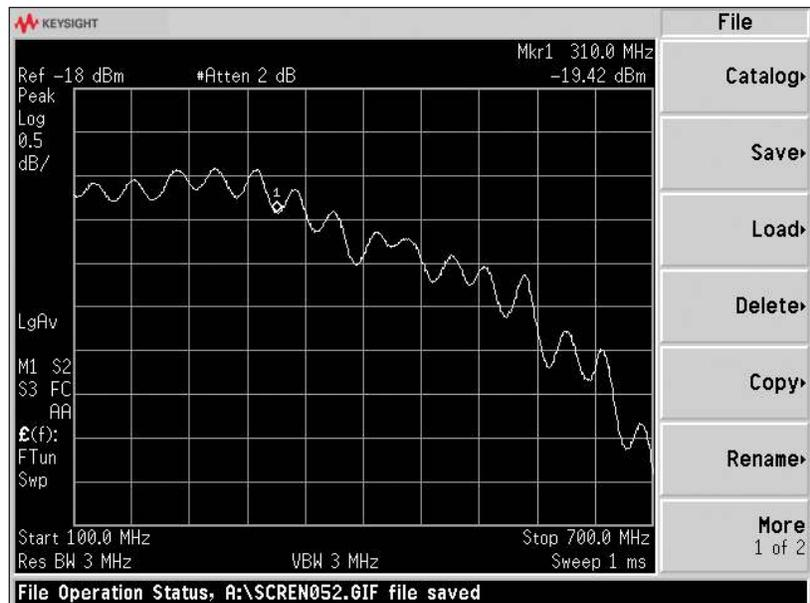

Figure 4. Output-power measurement of a mixer using the configuration illustrated in Figure 1.
- The simplest way is to use the max hold feature, available on most spectrum analyzers, by increasing the dwell time of the input source to be greater than one spectrum analyzer sweep. Figure 4 shows the results of an absolute power measurement using the Keysight Technologies, Inc. PSA Series spectrum analyzer. For this measurement, 50 milliseconds per point dwell time was used requiring approximately 23 seconds for one complete sweep.